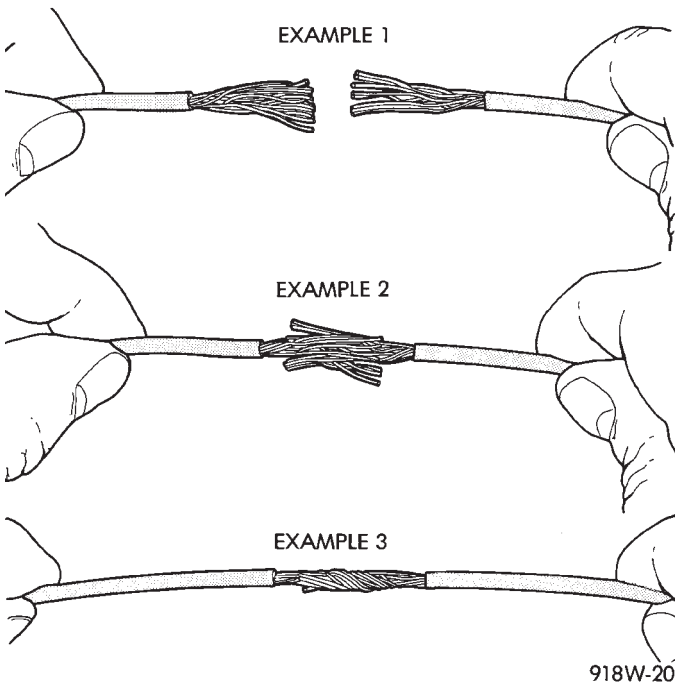

Fig. 10 Wire Repair
(1) Disconnect battery negative cable
(2) Remove 1 inch of insulation from each end of the wire.
(3) Place a piece of heat shrink tubing over one side of the wire. Make sure the tubing will be long enough to cover and seal the entire repair area.
(4) Spread the strands of the wire apart on each part of the exposed wire (example 1). (Fig. 10)
(5) Push the two ends of wire together until the strands of wire are close to the insulation (example 2) (Fig. 10)
(6) Twist the wires together (example 3) (Fig. 10)
(7) Solder the connection together using rosin core type solder only. **Do not use acid core solder.**
(8) Center the heat shrink tubing over the joint, and heat using a heat gun. Heat the joint until the tubing is tightly sealed and sealant comes out of both ends of the tubing.
(9) Secure the wire to the existing ones to prevent chafing or damage to the insulation
(10) Connect battery and test all affected systems.